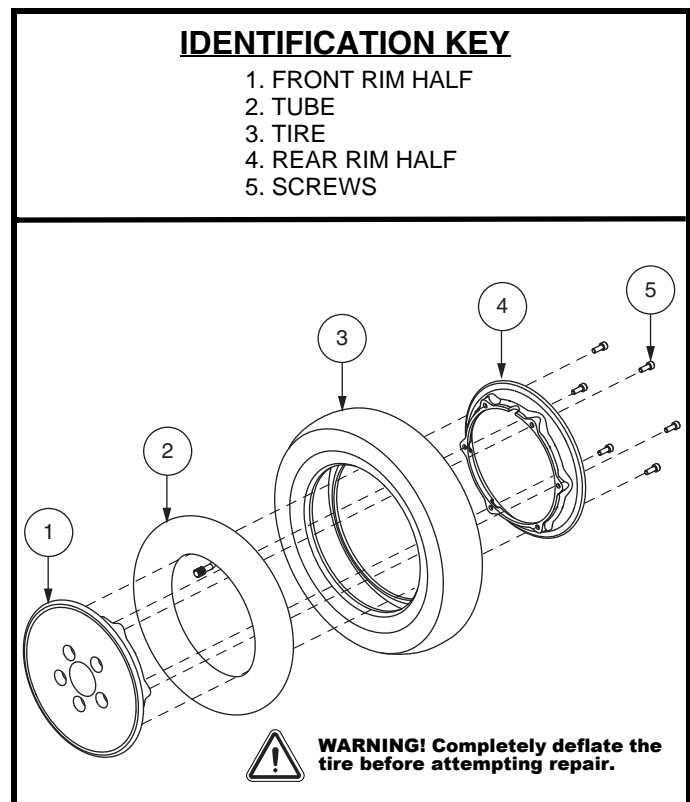

Figure 27. Pneumatic Drive Wheel Disassembly/Assembly
6. Remove the screws and separate the rim halves. See **figure 27**.